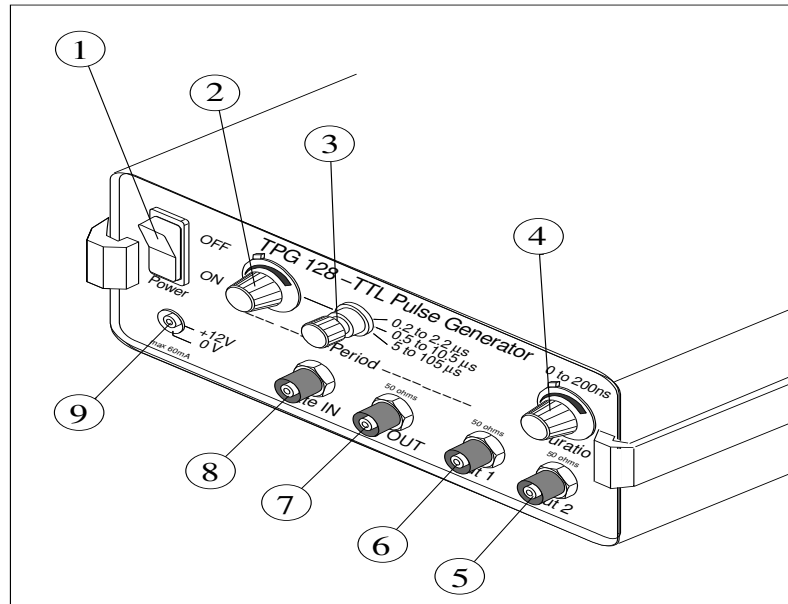

Figure 5.4.: TPG front panel.
The front and rear panels of the TPG are shown in figure 1.12; a detailed view of the front panel is shown below in figure 5.4.
The pulse duration can be set from 0 to 200ns and the interval between pulses from 200ns to 105 μ s in 3 ranges, using the (2), (3) and (4) knobs shown in figure 5.4.
The TPG can be operated in internal or external mode; the mode is selected with a switch on the rear panel of the TPG, as shown in figure 1.12. The input and output signals are provided or generated through the four BNC connectors shown in figure 5.4: